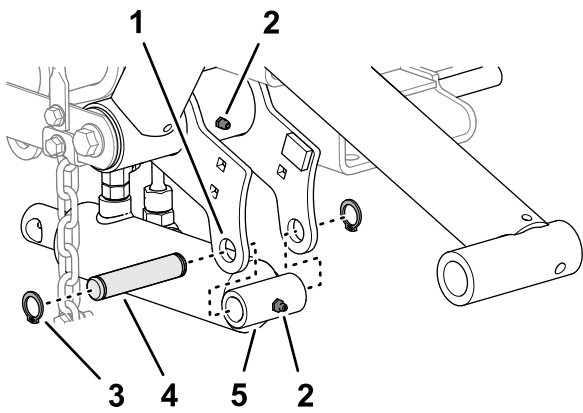

Figure 10
1. Align the cap end of the lift cylinder with the holes in the left lift-arm flanges (Figure 10).
2. Assemble the cylinder to the flanges with the mounting pin and 2 snap rings (Figure 10).
3. Apply No. 2 lithium grease to the grease fittings of the lift arm and the hydraulic cylinder (Figure 10).